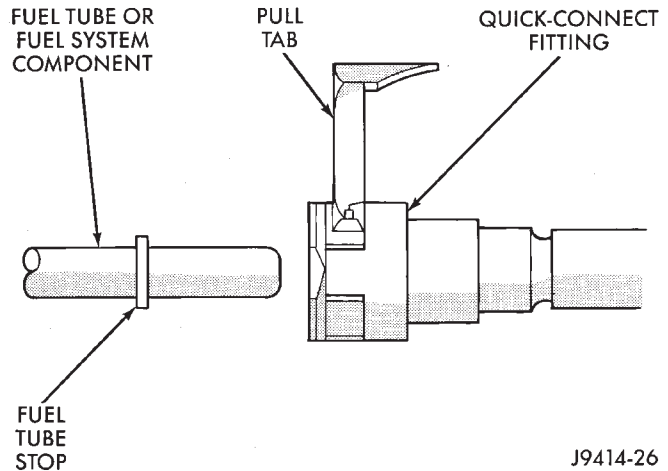

Fig. 17 Removing Pull Tab
- (6) Raise pull tab until it separates from quick-connect fitting (Fig. 17). Discard old pull tab.
- (7) Disconnect quick-connect fitting from fuel system component being serviced.
- (8) Inspect quick-connect fitting body and fuel system component for damage. Replace as necessary.
- (9) Prior to connecting quick-connect fitting to component being serviced, check condition of fitting and component. Clean parts with a lint-free cloth. Lubricate with clean engine oil.
- (10) Insert quick-connect fitting into fuel tube or fuel system component until built-on stop on fuel tube or component rests against back of fitting.
- (11) Obtain a new pull tab. Push new tab down until it locks into place in quick-connect fitting.